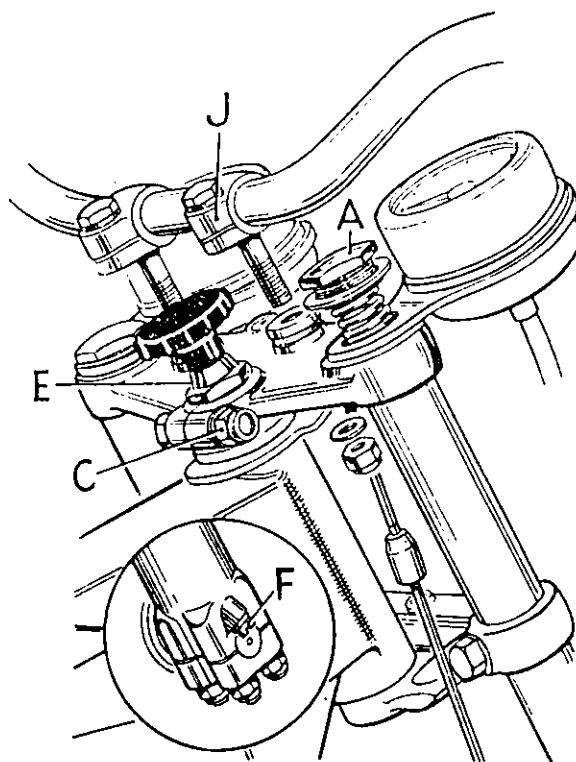

Fig. E2a. Steering head adjustment.
It is important that the quantity of damping fluid in each leg is identical and that the correct type of fluid is used. This is quoted on the face of the cap nuts (A) Fig. E2a, for additional emphasis.
Using a ring spanner, turn the nut (E) in a clockwise direction to reduce play or anti-clockwise to increase play (see Fig. E2a).
Take off the handlebars complete with their clamps, and lay them on the petrol tank, which should be protected with a piece of cloth. Slacken the pinch bolt (C) and remove the adjuster nut (E) Fig. E2a. Using service tool No. 60-0779, remove the cap nuts (A). This operation will also release the instruments which must be supported
Fit a new cone to the bottom of the steering column. Grease the bearing balls and reassemble the column into the steering head. Grease the balls of the upper bearing and slide it into position from the top of the column. Add the dust cover, replace the top yoke and tighten the adjuster nut (E) Fig. E2a, making the final adjustment as described on page E2a.